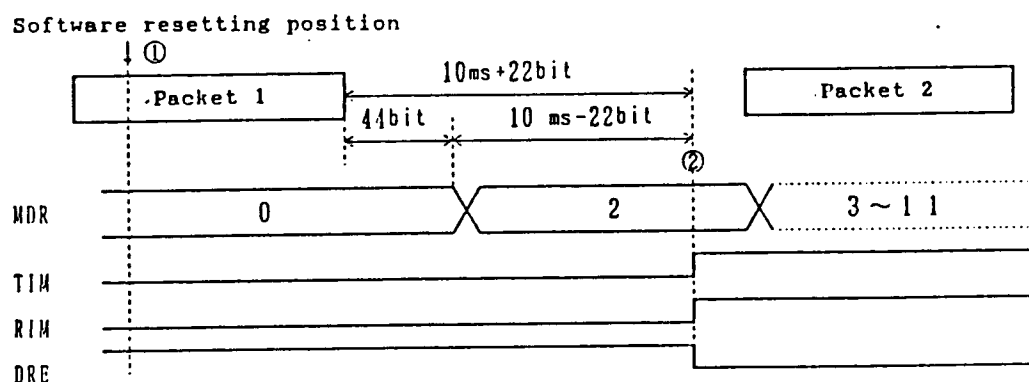

Figure 4.13 Sending/receiving interrupt mask flag operation upon resetting
Figure 4.13 shows operations of the sending and receiving interrupt mask flags upon software resetting. Software resetting is performed at Figure 4.13 ①. In this case, the packet end is searched while the state counter is "0" when data is provided, then the synchronization recovery period ends at the point  $10\text{ ms} + 22\text{ bits}$  later (Figure 4.13 ②) and interrupt is applied thereafter.